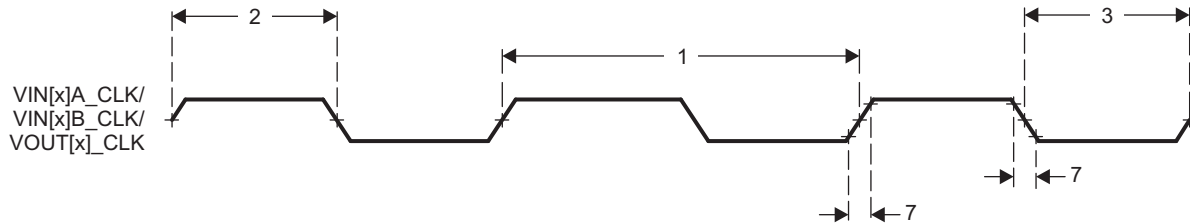
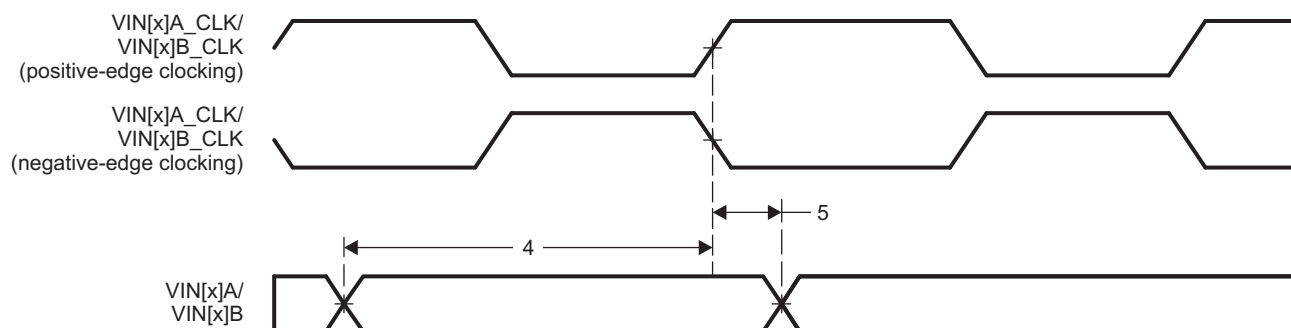
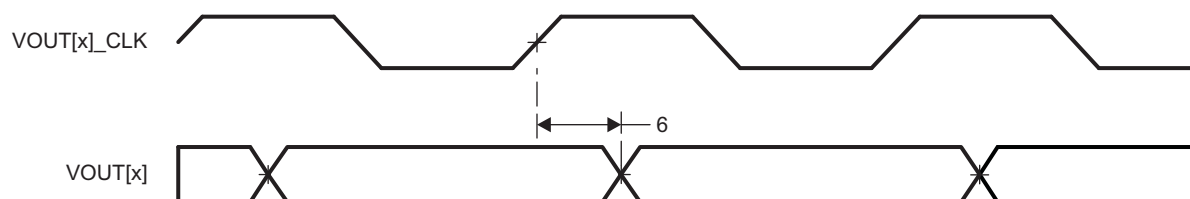

Figure 8-68. HDVPSS Clock Timing
Figure 8-69. HDVPSS Input Timing
Figure 8-70. HDVPSS Output Timing
8.10.1 HDVPSS Electrical Data/Timing**Table 8-71. Timing Requirements for HDVPSS Input**(see Figure 8-68 and Figure 8-69)
(see Figure 8-68 and Figure 8-70)